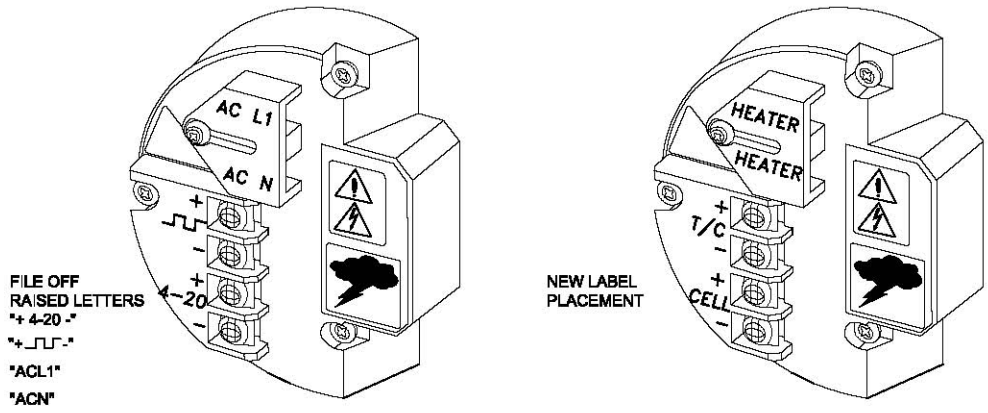

Figure 3 – Terminal Block Label Placement
- 2.8 In the terminal side of the blue housing, grind or file off the existing raised terminations assignments. Place the new labels (p/n 1A99636H01) onto the terminations block as shown in Figure 3. Do not reinstall the cover until after external rewiring has been completed.